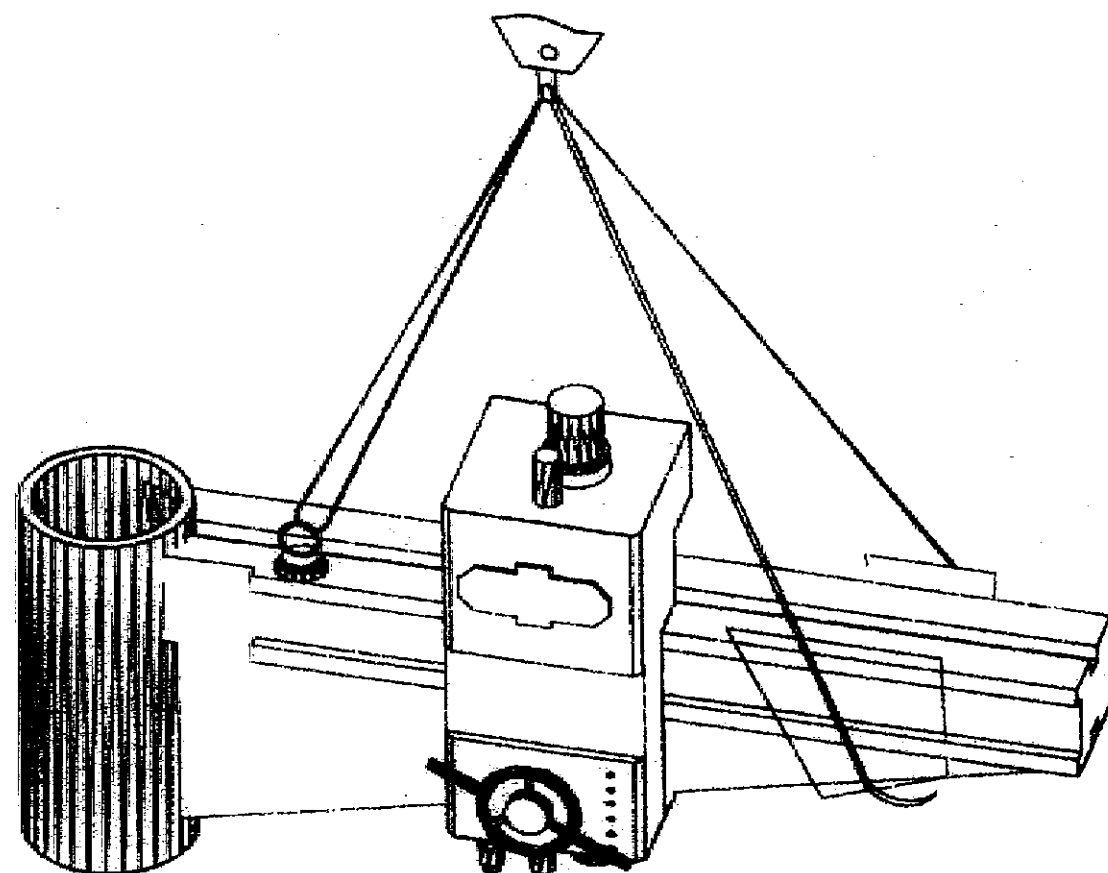

Fig. 2.11 Handling of the Arm
2.4.4 Mount the arm on the column, at first, rope the arm properly as shown in Fig. 2.11, the arm must be in a balanced state when hoisting. Before putting the arm on the outer column, carefully inspect and remove the dirt in the big hole of the arm, wipe the outer surface of the column clean and apply lube oil on it. Before the arm is sheathed on the column, be careful to align a key on the arm with a keyway on the column, then the sheathing is carried out slowly. After the arm is sheathed on the column, place a shim with a height of 50~100 mm between the arm and the nosing of the lower part of the outer column. Finally remove the hoisting ring on the arm, then screw the removed hoisting ring theaded hole plug. Note: At this time the arm is not in a clamping state, you must prevent the arm from rotate, pay attention to safety!